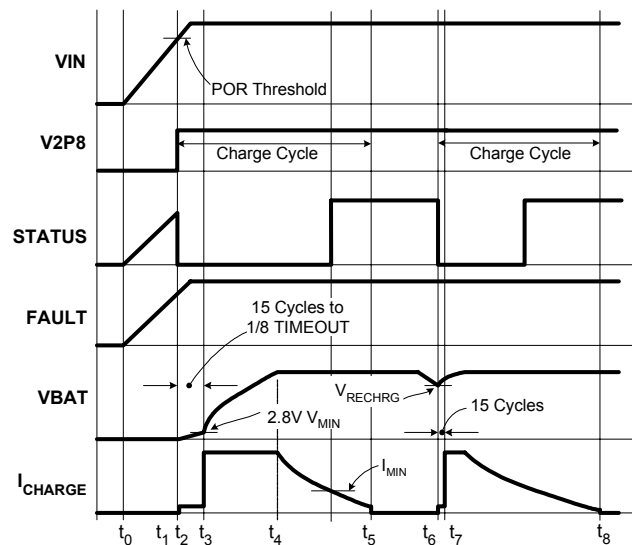

FIGURE 19. OPERATION WAVEFORMS
Figure 19 illustrates the typical signal waveforms for the linear charger from the power-up to a recharge cycle. More detailed Applications Information is given below.
The ISL6292 resets itself as the input voltage rises above the POR rising threshold. The V2P8 pin outputs a 2.8V voltage, the internal oscillator starts to oscillate, the internal timer is reset, and the charger begins to charge the battery. The two indication pins, STATUS and FAULT, indicate a LOW and a HIGH logic signal respectively. Figure 19 illustrates the start up of the charger between  $t_0$  to  $t_2$ .
A charge cycle consists of three charge modes: trickle mode, constant current (CC) mode, and constant voltage (CV) mode. The charge cycle always starts with the trickle mode until the battery voltage stays above  $V_{MIN}$  (2.8V typical) for 15 consecutive cycles of the internal oscillator. If the battery voltage drops below  $V_{MIN}$  during the 15 cycles, the 15-cycle counter is reset and the charger stays in the trickle mode. The charger moves to the CC mode after verifying the battery voltage. As the battery-pack terminal voltage rises to the final charge voltage  $V_{CH}$ , the CV mode begins. The terminal voltage is regulated at the constant  $V_{CH}$  in the CV mode and the charge current is expected to decline. After the charge current drops below  $I_{MIN}$  (programmable for the 4x4 and 5x5 package and programmed to 1/10 of  $I_{REF}$  for the 3x3 package, see End-of-Charge Current for more detail), the ISL6292 indicates the end-of-charge (EOC) with the STATUS pin. The charging actually does not terminate until the internal timer completes its length of TIMEOUT in order to bring the battery to its full capacity. Signals in a charge cycle are illustrated in Figure 19 between points  $t_2$  to  $t_5$ .
After a charge cycle completes, charging is prohibited until the battery voltage drops to a recharge threshold,  $V_{RECHRG}$  (see Electrical Specifications). Then a new charge cycle starts at point  $t_6$  and ends at point  $t_8$ , as shown in Figure 19. The safety timer is reset at  $t_6$ .
The trickle mode charge has a time limit of 1/8 TIMEOUT. If the battery voltage does not reach  $V_{MIN}$  within this limit, a TIMEOUT fault is issued and the charger latches up. The charger stays in trickle mode for at least 15 cycles of the internal oscillator and, at most, 1/8 of TIMEOUT, as shown in Figure 19.
The end-of-charge current  $I_{MIN}$  sets the level at which the charger starts to indicate the end of the charge with the STATUS pin, as shown in Figure 19. The charger actually does not terminate charging until the end of the TIMEOUT, as described in the Total Charge Time section. The  $I_{MIN}$  is set in two ways, by connecting a resistor between the IMIN pin and ground, or by connecting the IMIN pin to the V2P8 pin. When programming with the resistor, the  $I_{MIN}$  is set in the equation below.